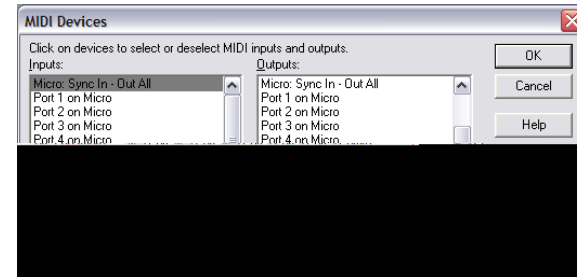

Figure 7-3: Slaving to the Sync port for SMPTE synchronization via MIDI Time Code (MTC), demonstrated here in Cakewalk SONAR.
- 2 Connect the sequencer to the Express interface Sync port, as demonstrated below in Figure 7-3 for the Express XT and SONAR™: